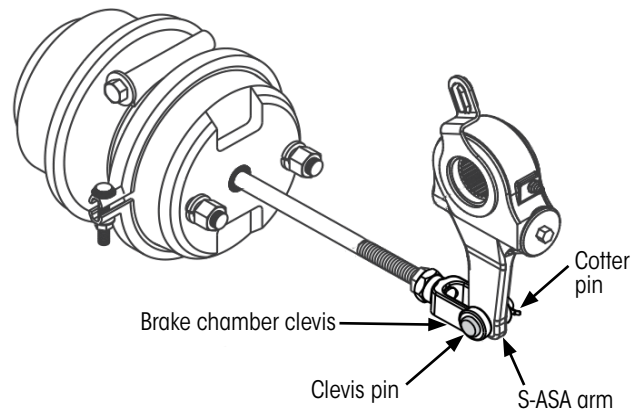

Figure 3: S-ASA brake chamber connection
5. **Rotate** the Adjustment Hex **clockwise** until the hole in the arm of the S-ASA aligns to the brake chamber clevis Figure 3.